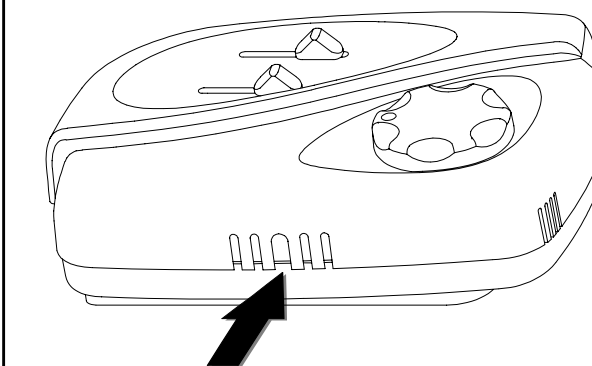
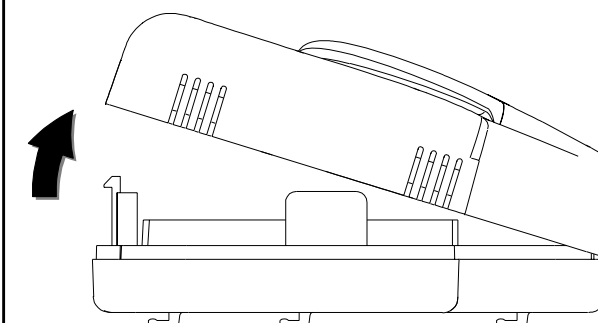

Fig. 2: **Feritoia per apertura calotta / Plastic cover opening slot**
Fig. 3: **Apertura calotta / How to remove the plastic cover**
1. Remove the plastic cover pressing (with the help of a tool like a screwdriver) the plastic tooth located in the lower slot as indicated in Fig. 2 raising, at the same time, the front cover as indicated in Fig. 3.
1. Rimuovere la calotta spingendo con l'aiuto di un attrezzo (ad esempio un cacciavite) la linguetta plastica situata nella feritoia in basso come in Fig. 2 e ruotare contemporaneamente la calotta come in Fig. 3.